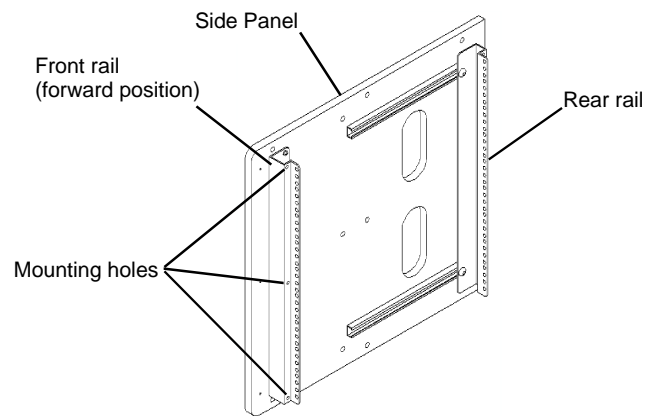

Figure 1
1. Locate mounting holes on existing front and rear rails attached to Rack Mount Module Side Panels. See **Figure 1**.